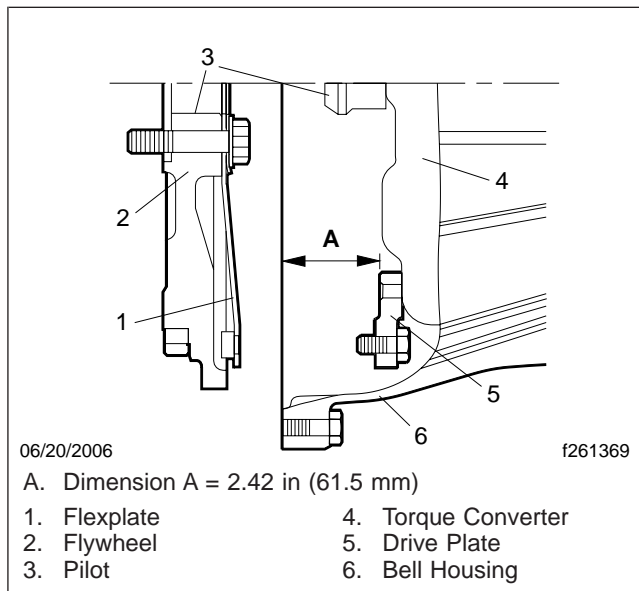

Fig. 10, Installing the Torque Converter
1. Slide the torque converter onto the input shaft of the transmission. Make sure the torque converter is fully engaged with the input shaft. When the torque converter is correctly installed, the distance from the surface of the drive plate to the mounting surface of the bell housing is 2.42 inches (61.5 mm) or more. See Fig. 10.